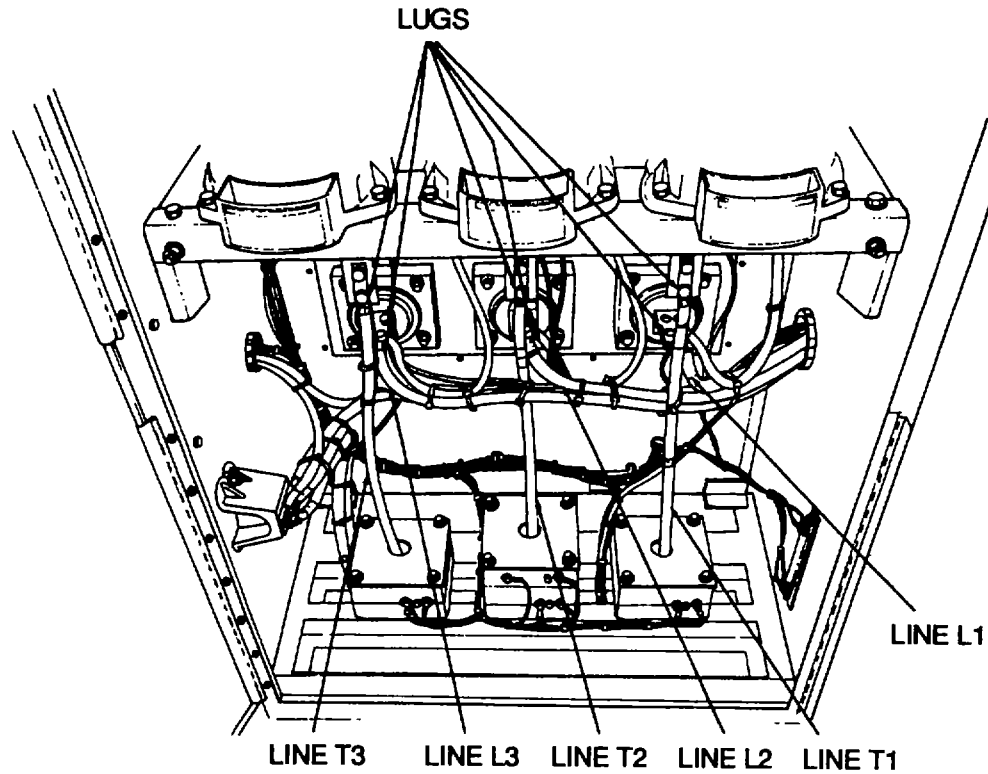
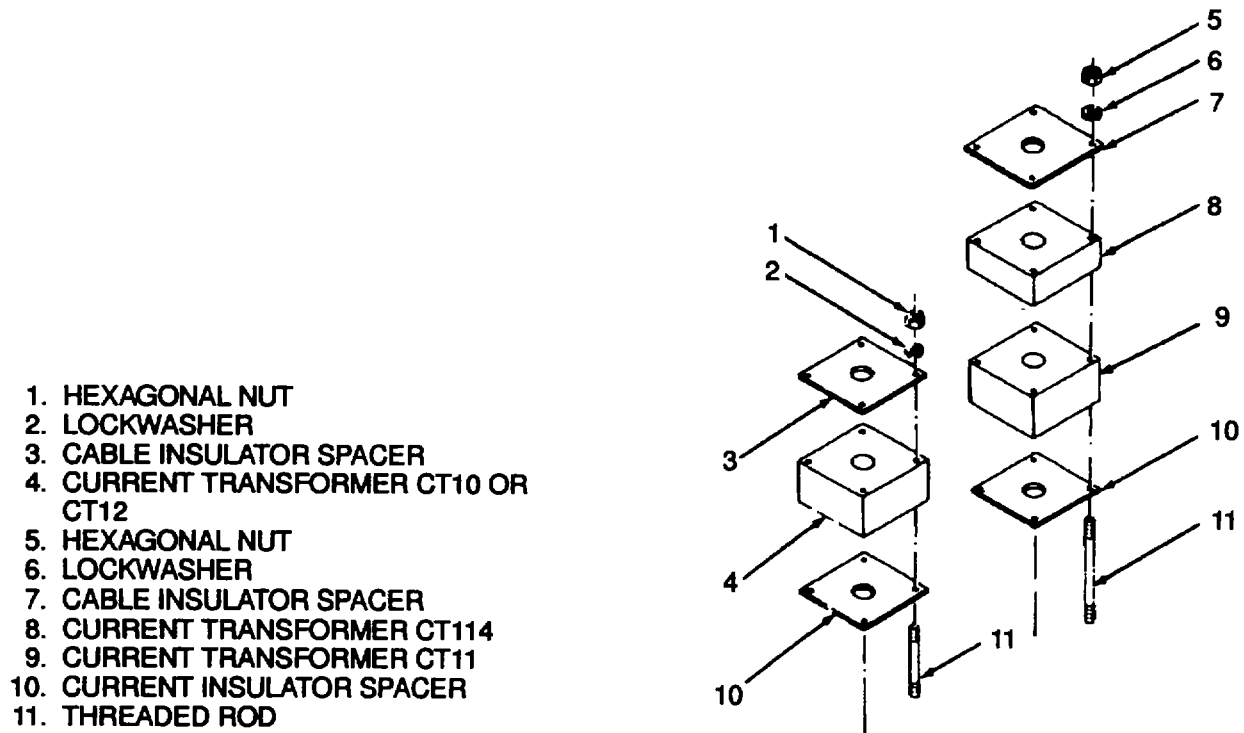

Figure 10-3. Generator G1 Lines T1, T2, T3, L1, L2, and L3.
Figure 10-4. Current Transformers CT10, CT11, CT1 2, and CT114, Exploded View
- (c) Using a grounding stick with a grounded metal tip, momentarily touch the lugs of generator G1 leads T1, T2, and T3 where they connect to load circuit breaker CB1 01. Refer to Figure 10-3.
- (g) Refer to Figure 10-4. To remove current transformers CT10 or CT12 (4), remove hexagonal nuts (1), lockwashers (2), and cable insulator spacer (3).
- (h) To remove current transformers CT114 (8) or CT11 (9), remove hexagonal nuts (5), lockwashers (6), and cable insulator spacer (7).
- (i) Remove cable insulator spacers (10) or threaded rods (11) only if damaged.
- (a) Refer to Figure 10-4. Install threaded rods (11) or cable insulator spacers (10), if removed.
- (b) Install current transformers CT11 (9) and CT1 14 (8) over generator lead T2 and secure with cable insulator spacer (7), lockwashers (6), and hexagonal nuts (5).
- (c) Install current transformers CT1 0 and/or CT12 (4) over generator leads T3 and/or T1, respectively, and secure with cable insulator spacers (3), lockwashers (2), and hexagonal nuts (1).
- (e) Connect lugs of generator leads T1, T2, and T3 to appropriate terminals on load circuit breaker CB1 01. Refer to Figure 10-3.
(1) Remove
- (d) Using a grounding stick with a grounded metal tip, momentarily touch the lugs of generator G1 leads T1, T2, and T3 where they connect to load circuit breaker CB101. See Figure 10-3.